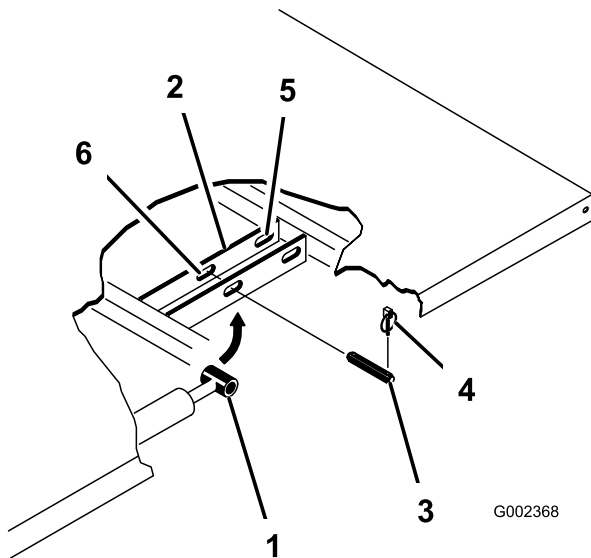

Figure 3
4. Remove the lynch pins from the outer ends of the cylinder rod clevis pins (Figure 3).